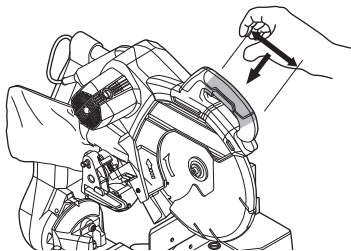

Fig. 1
44. Make sure to securely hold the tool during operation. Failure to do so can result in accidents or injuries. (Fig. 1)